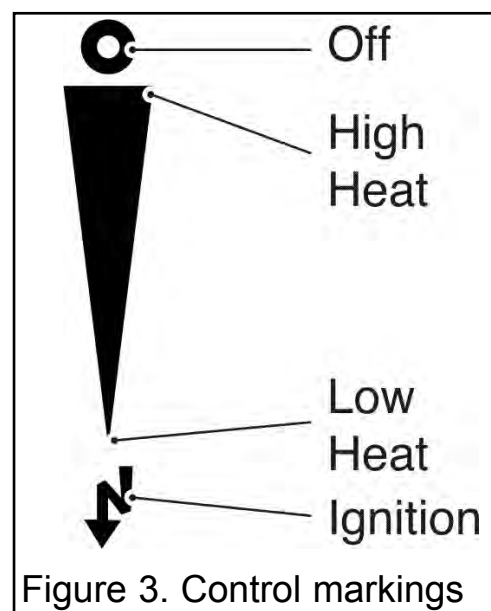

Figure 3. Control markings
The control markings are shown in figure 3.
– If low heat is required, release the button. The button will automatically spring up to the low heat position shown in figure 3 (See note i). If for any reason the
– For a higher heat level slide the button upwards. The burner flames and heat output will gradually increase until the button reaches the high heat position shown in figure 3. When the button reaches the high heat position you will feel a check to its movement. Do not slide the button above the high heat position unless you want to turn the fire off (See note i).